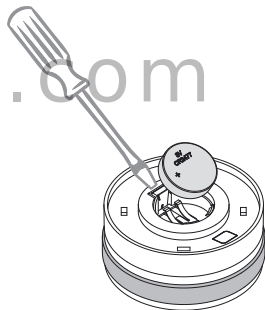

Figure 8.2
- After the user interface is removed; use a small flathead screwdriver to aid in removal of the old battery see **Figure 8.2**.